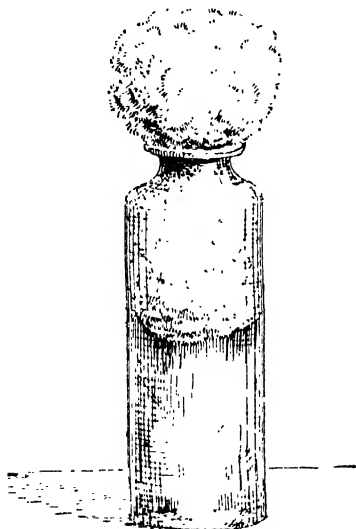

Fig. 490.—Paste Brush made with Bottle and Sponge.
**Paste Brush.**—A paste brush costs only a penny or two. For mounting photographs, pictures, or any other small work for which paste is used, the brush illustrated by Fig. 490 is said to be far better than the common kind. The paste goes on smoothly; it avoids an excess and retains its supply; when placed on the table it stands up, and when the work is done it is easily cleaned. Its construction needs but little explanation, all that is required being a small phial. Into this stuff two parts of a piece of fine sponge, leaving about one part exposed; the exposed part can be pushed in or pulled out to vary the size required, but the greater part should always be kept inside. Being able to stand it on end is no small advantage.